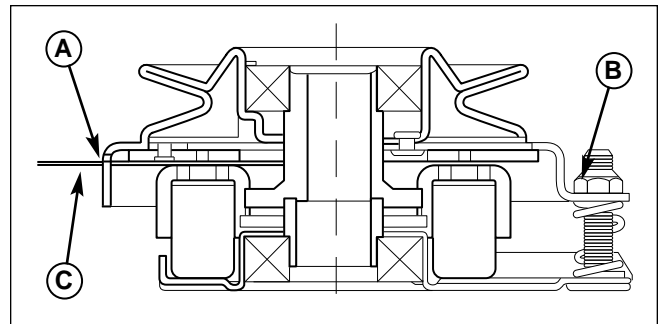

Figure 39. Adjust PTO Clutch
3. Insert a .016"-.018" (0,40-0,45mm) feeler gauge (C) through each window, positioning the gauge between the rotor face and the armature face as shown in Figure 39.